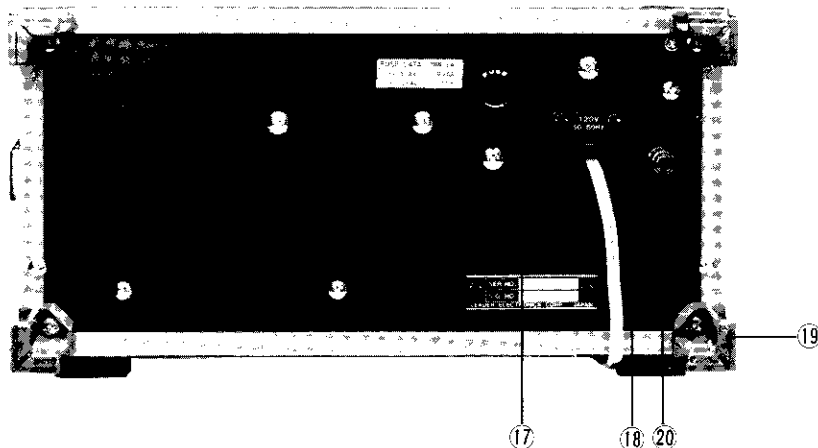

Fig. 3-2
3.2 Rear Panel (Fig. 3-2)
⑰ Fuse